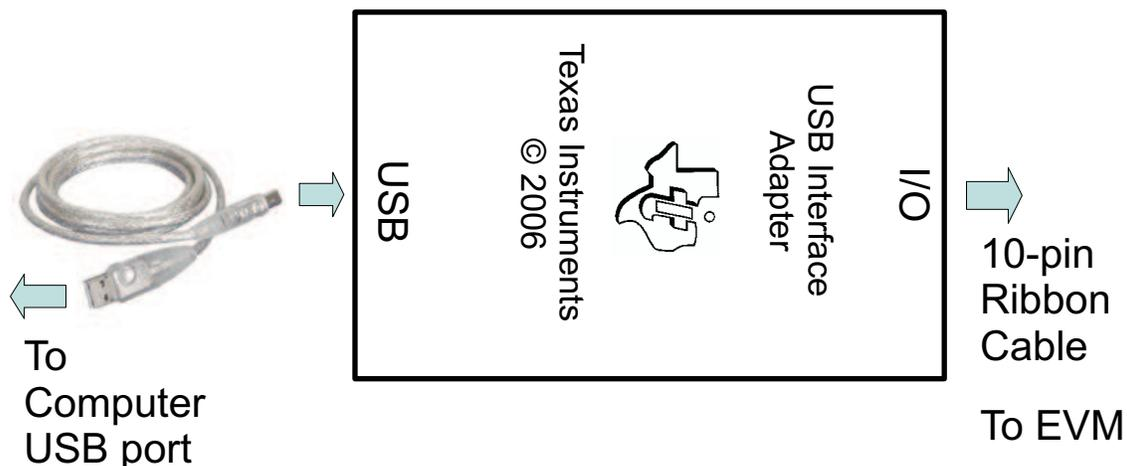

Figure 1. Connections of HPA172 Kit
7. Connect the HPA172 USB-TO-GPIO to J2 using the 10-pin ribbon cable. Connect the USB port of the HPA172 kit to the USB port of the computer. The connections are shown in Figure 1.